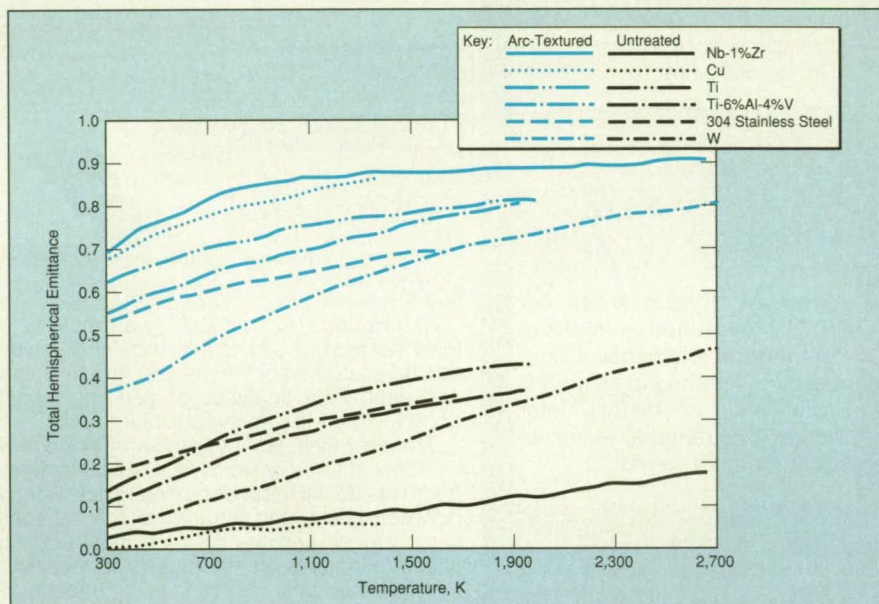

Figure 1. Total Hemispherical Emittances of specimens of several alloys were increased considerably by texturing with carbon arcs.
Experiments in arc texturing were performed using (1) substrates made of various elemental metals and metal alloys; (2) electrodes made of carbon or silicon carbide; and (3) various arc currents, both dc and ac. The carbon electrodes were operated in argon; the silicon carbide electrodes were operated in air. Initial tests showed that ac arcs yielded higher emittances; thereafter, all texturing was done with sinusoidal-waveform ac arcs at (1) currents from 14 to 20 A with frequencies from 100 to 1,000 Hz in the case of carbon electrodes and (2) currents of 15 A with a frequency of 60 Hz in the case of silicon carbide electrodes. Figure 1 shows the increases in total hemispherical emittances of various alloy substrates, both untreated and treated by carbon-arc texturing.